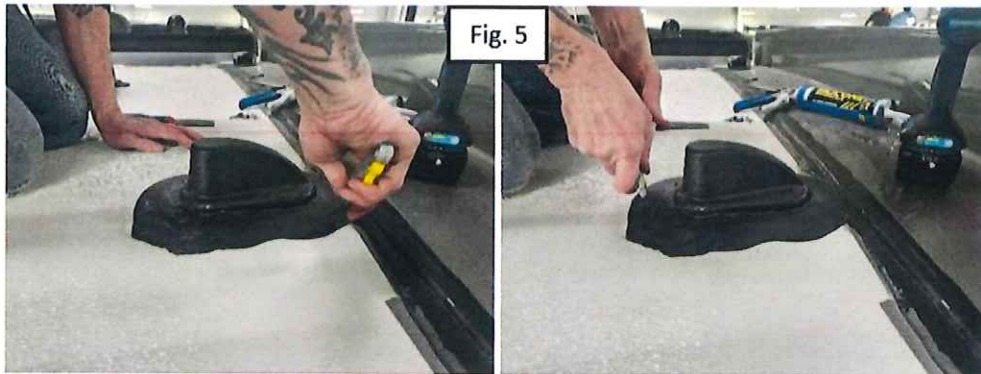

Fig. 5
2. Use a utility knife to score the self-level, on the coach, around the perimeter of the antenna base. (Figure 5)